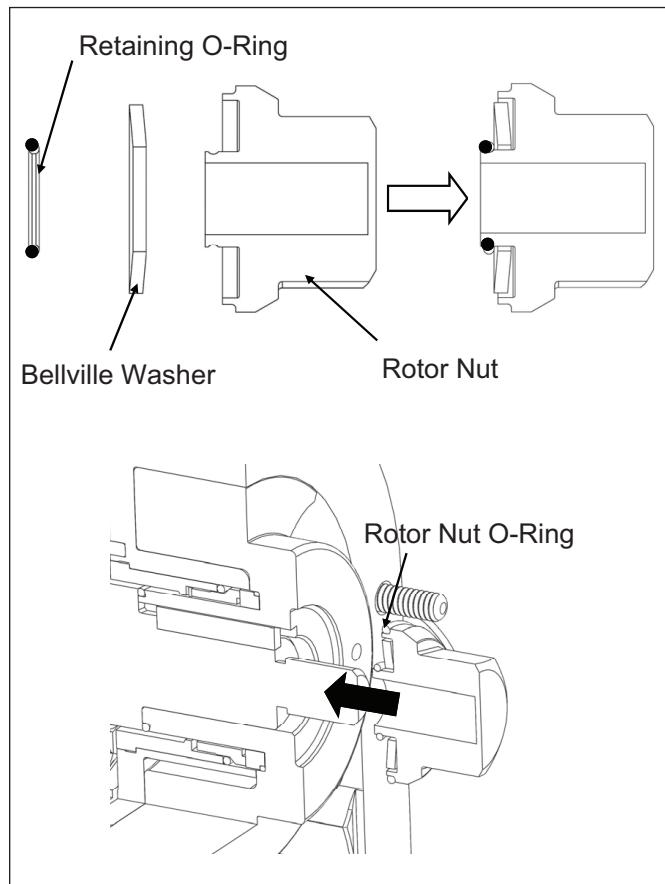

Figure 32. Rotor Nut Assembly
6. Install the Bellville washers in the rotor nuts in the orientation shown and hold them in place using the small retaining o-rings (*Figure 32*). Install a rotor nut o-ring before threading the nut onto the shaft.